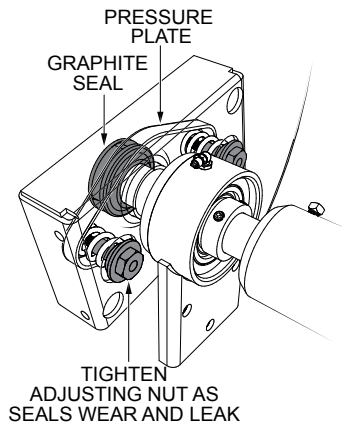

Figure 36. Drum Seal Adjusting Nuts
2. As the seals naturally wear, material will seep from the drum head. Tighten the adjusting nuts equally until a slight pressure is felt (Figure 36). The seals are now tight. This procedure should be done periodically as the seals leak.